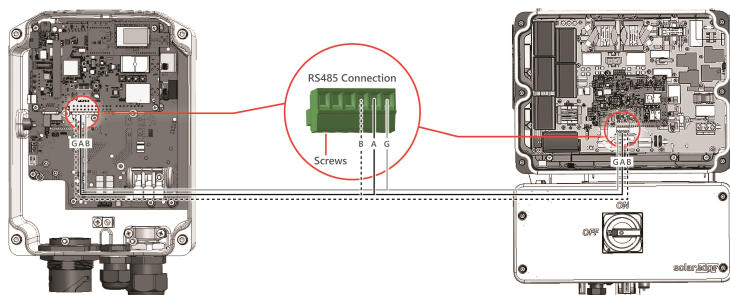

Figure 14: RS485 connection between the Single phase inverter with HD-Wave technology and the SolarEdge Home EV Charger
- c. Loosen the screws of the connector and connect the SolarEdge Home EV Charger wires according to the connector label B to B, A to A, and G to G, see Figure 14. The wire for G is not from the same twisted pair as A or B.